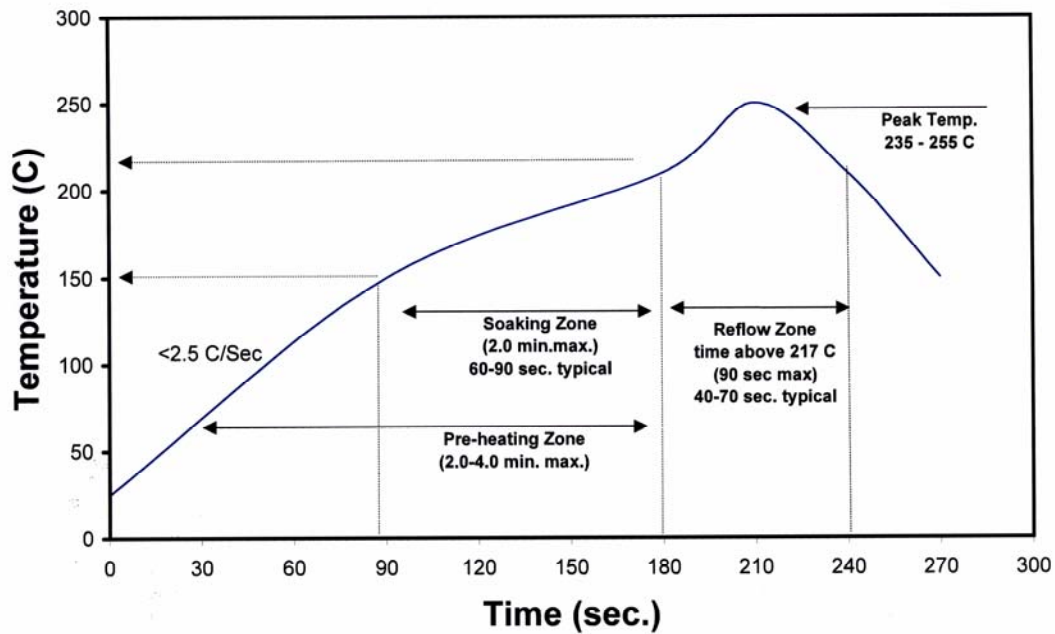

Figure 3: Reflow Soldering Profile for lead free soldering.
- Solder conditions per JEDEC 020c. See Reflow Soldering Profile Figure 3.